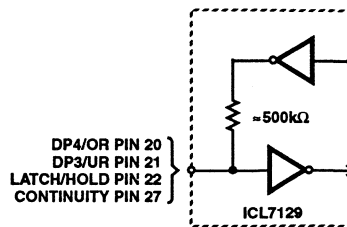

FIGURE 6. "WEAK OUTPUT"
Four pins of the ICL7129 can be used as either inputs or outputs. The specific pin numbers and functions are described in the Pin Description table. If the output function of the pin is not desired in an application it can easily be overridden by connecting the pin to V+ (HI) or DGND (LO). This connection will not damage the device because the output impedance of these pins is quite high. A simplified schematic of these input/output pins is shown in Figure 6. Since there is approximately 500kΩ in series with the output driver, the pin (when used as an output) can only drive very light loads such as 4000 series, 74CXX type CMOS logic, or other high input impedance devices. The output drive capability of these four pins is limited to 3µA, nominally, and the input switching threshold is typically DGND + 2V.